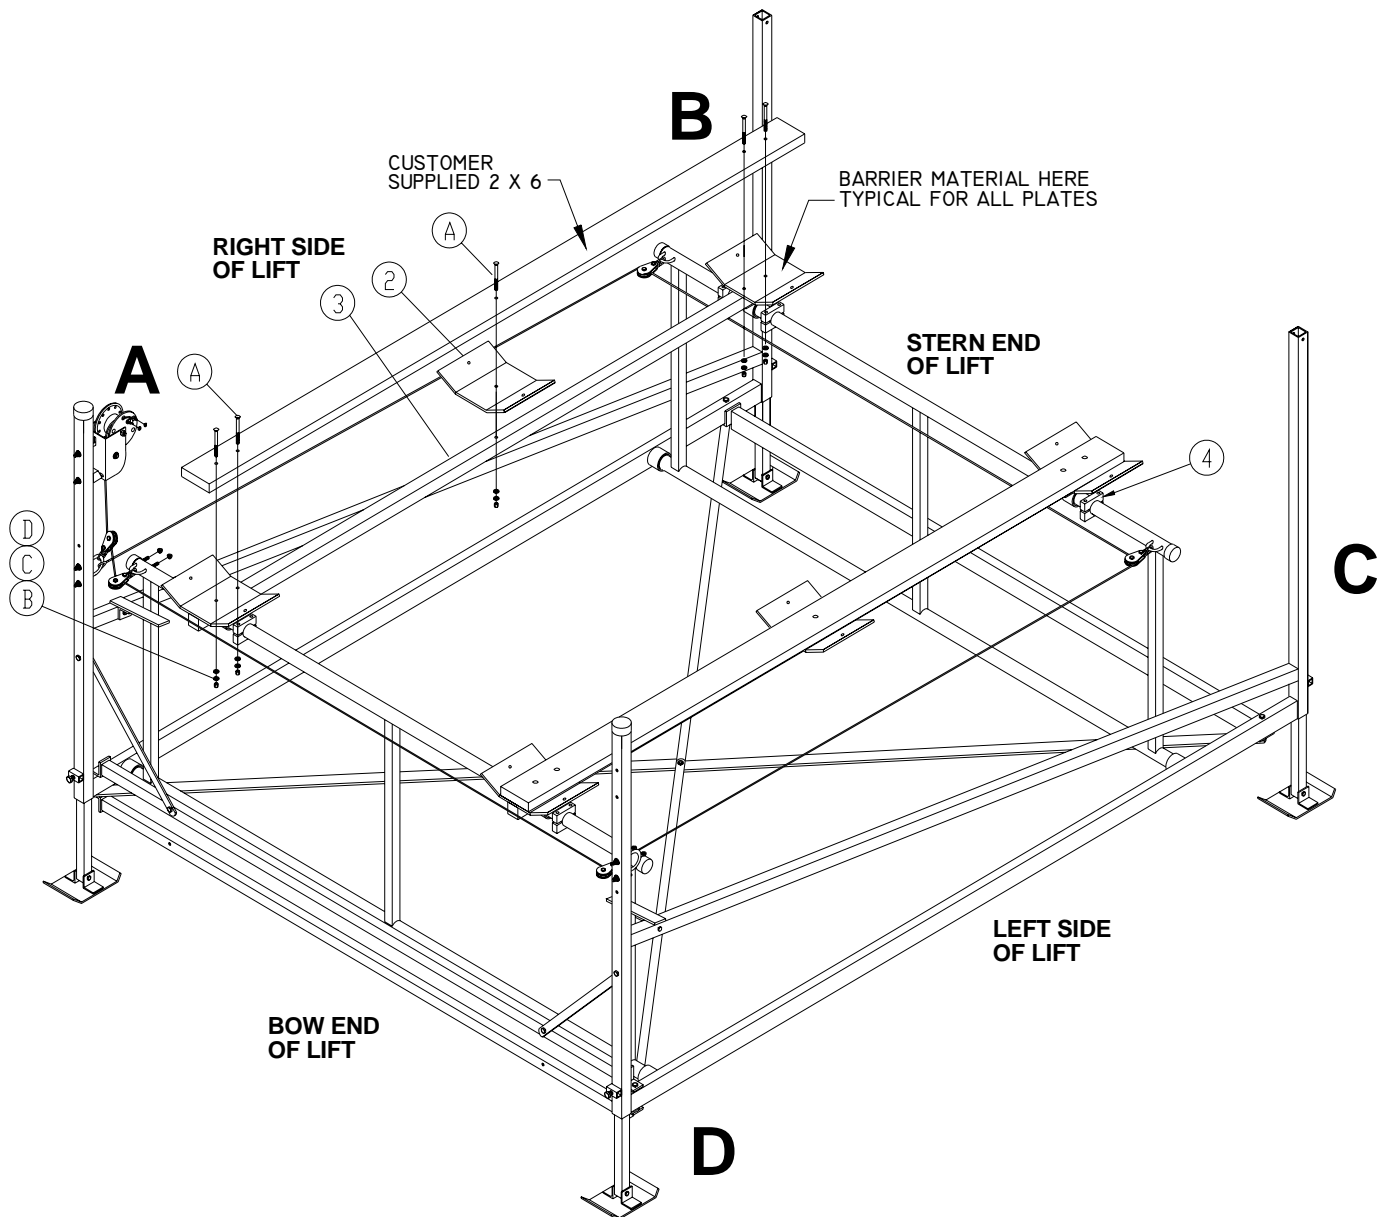

Figure 2-2.
1. Refer to Figure 2-2. Position a four-hole pontoon bunk mounting plate (1) on top of pontoon bunk support tube at each pair of holes.
2. Position a three-hole pontoon mounting plate (2) at each single hole in pontoon bunk support tube.
4. Securely attach the 2" x 6" wood, pontoon bunk mounting plates, and pontoon bunk support tube to the pivoting bunk-mounting brackets using carriage bolt (A), flat washer (B), split-lock washer (C), and hex nut (D) for each hole.